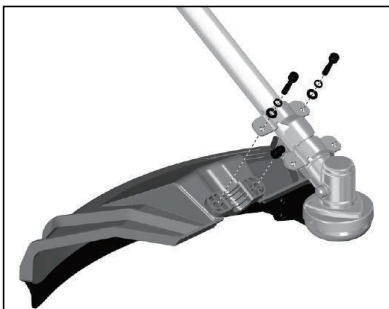
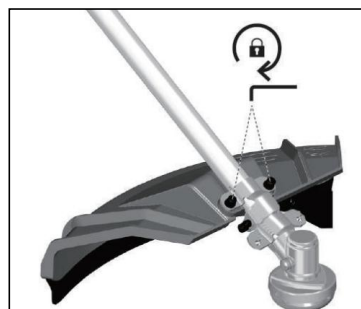

Fig.3-1
Fig.3-2
Assembly the guard (Fig.3-1, Fig.3-2)
- 1) Place the guard on the **fixture**. (fig3-1)
- 2) Assemble and tighten the screws. (fig.3-2)